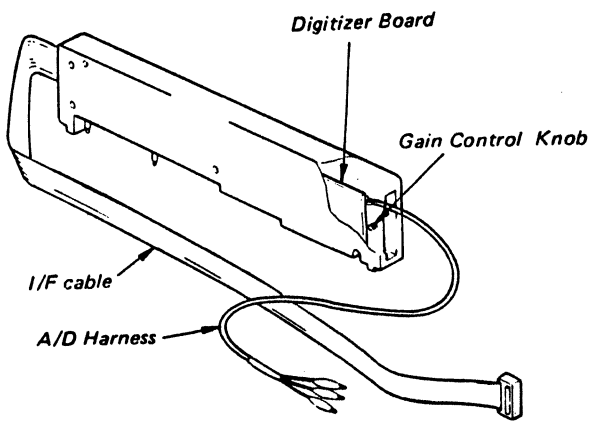

Fig. 2-7 Digitizer Configuration
- (1) Digitizer configuration (Refer to Fig. 2-7)